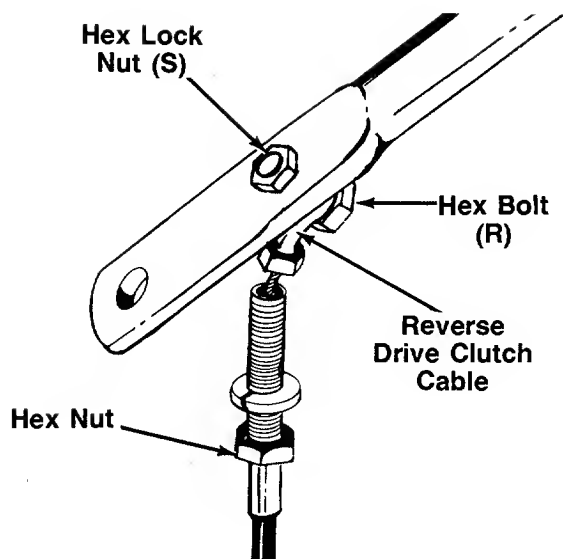

FIGURE 13.
2. Attach the end of drive control cable to the upper hole of reverse drive clutch lever (W), using hex bolt (R) and hex lock nut (S). See figure 13.
3. Remove one nut and the lock washer from the end of the reverse drive control cable. Thread the other hex nut all the way down the cable as far as it will go as shown in figure 13.